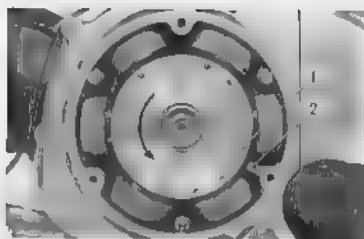
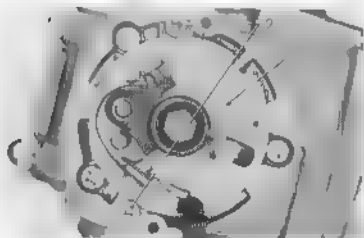

Fig. 5.6 Adjusting the ignition timing
Fig. 5.7 Adjusting the ignition timing
- b. With the dynamo cover removed, rotate the generator rotor counter-clockwise until the "F" mark ① on the flywheel lines up with the alignment mark ② on the stator (Fig. 5.6) in this position, the breaker point should just commence to open. This can be checked with a thin thickness gauge. If adjustment is necessary, loosen the base plate screws ② and rotate the base plate ① by inserting a screwdriver into the adjusting slot to obtain the proper timing. (Fig. 5.7)